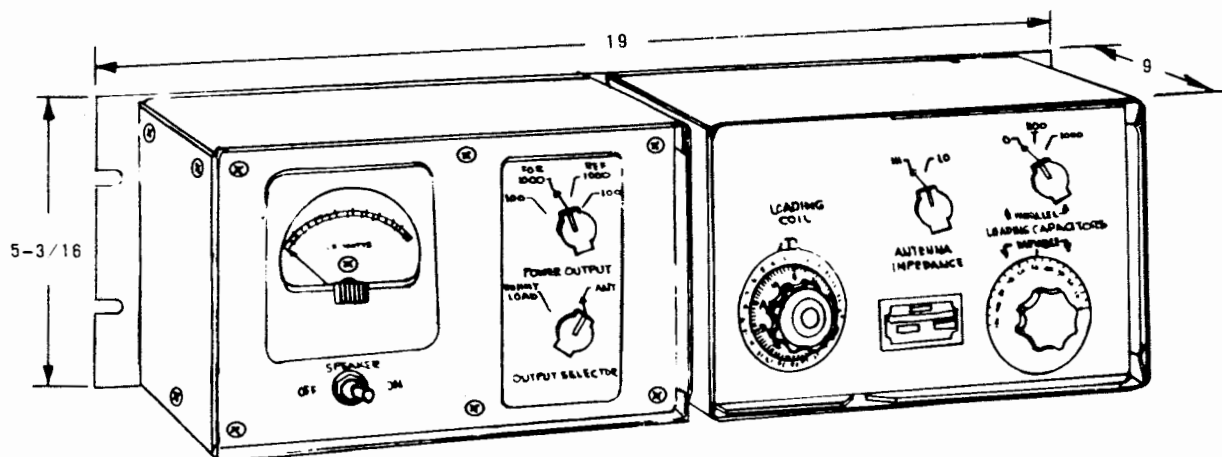

Figure 6-17 Coupler Monitor CU-737/URC Physical Configuration
b. PHYSICAL CONFIGURATION. - See Figure 6-17.